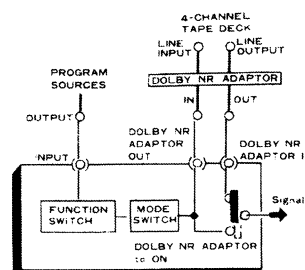

Fig. 26
1. As shown in Fig. 26, connect Dolby adaptor output to tape deck recording input (line input) terminals.